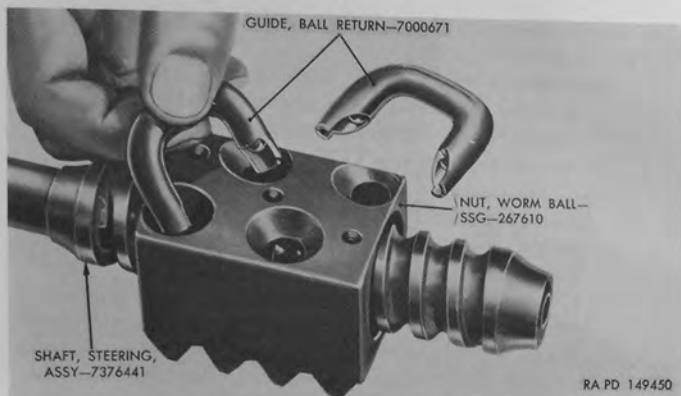

Figure 190. Removing or installing ball return guides.
i. To disassemble ball nut, remove three $\frac{1}{4}$ -28 x $\frac{5}{16}$ screws (U) which attach ball return guide clamp (V) to worm ball nut (Y). Remove clamp. Pull ball return guides (W) out of ball nut in manner shown in figure 190. Turn ball nut upside down, and rotate shaft back and forth until all $\frac{9}{32}$ -inch worm balls (X) have dropped out of ball nut into a clean pan. With the balls removed, pull ball nut endwise from shaft worm.